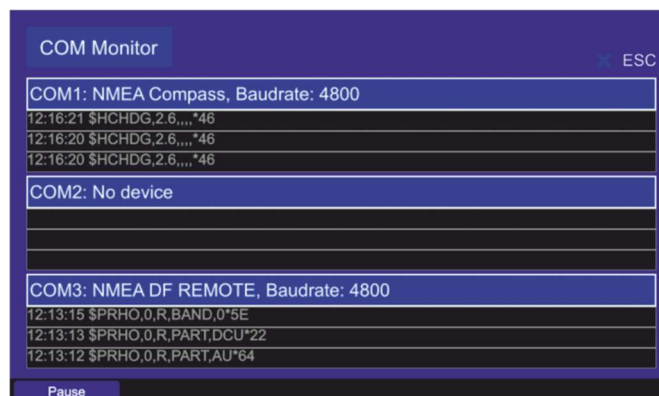

Figure 143. COM monitoring dialog
- To open the dialog for COM monitoring press the “COM Monitor” hotkey. Following dialog opens (s. Figure 143).